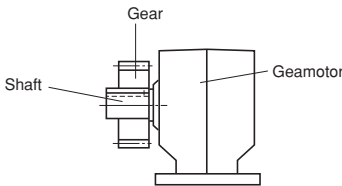
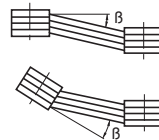

Fig.24
Fig.25
(2) When using a Chain Sprocket and Gear
- Install sprocket and gears so that their point of load application will be closer to the gearmotor side with respect to the length of the shaft. (Fig.24)
(3) When using a V-belt
- The parallelism and eccentricity (B) between two pulleys should be within 20'. (Fig25)